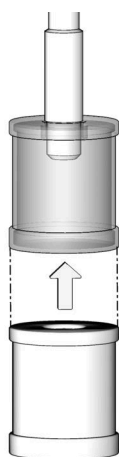

FIG. 3
- b. For all installations (whether the tube needs to be trimmed or can be used without trimming), press strainer onto end of the suction tube until it bottoms (FIG. 3).